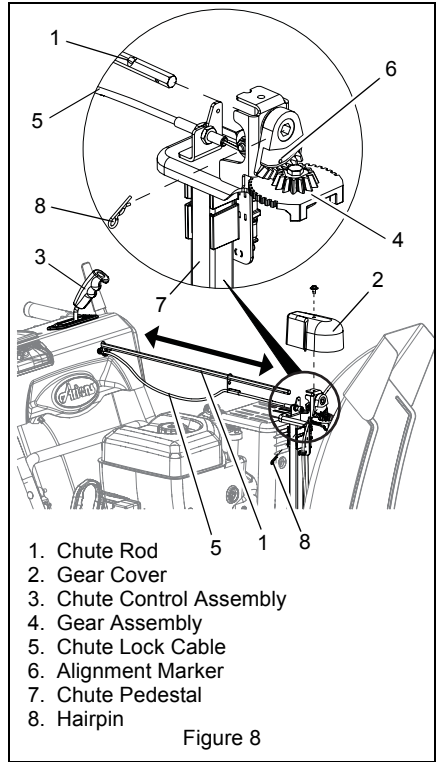

Figure 8
5. Remove the gear cover from top of chute pedestal. (Figure 8).
11. Insert chute rod end without ears into control panel and slide into control lever until opposite end of rod clears chute gear assembly. See Figure 8.